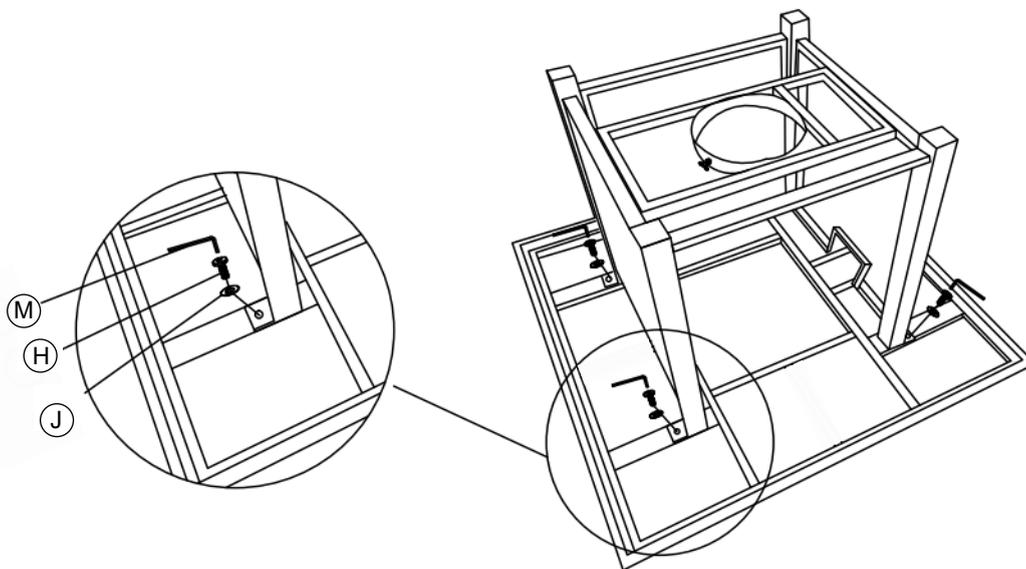

Figure 3
4. Turn over the assembled frame, attach to the top (B) with 4 bolts M6\*20mm (H) and 4 flat washer (J) by using the allen wrench (M), and keep the ignition panel directly facing the door (F), (see figure3).